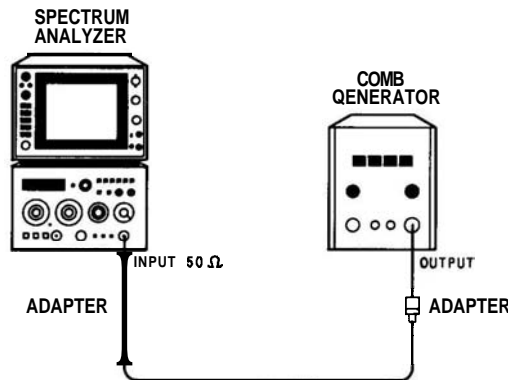

FIGURE 4-8. NOISE SIDEBANDS TEST SETUP
2. Connect equipment as shown in Figure 4-8.